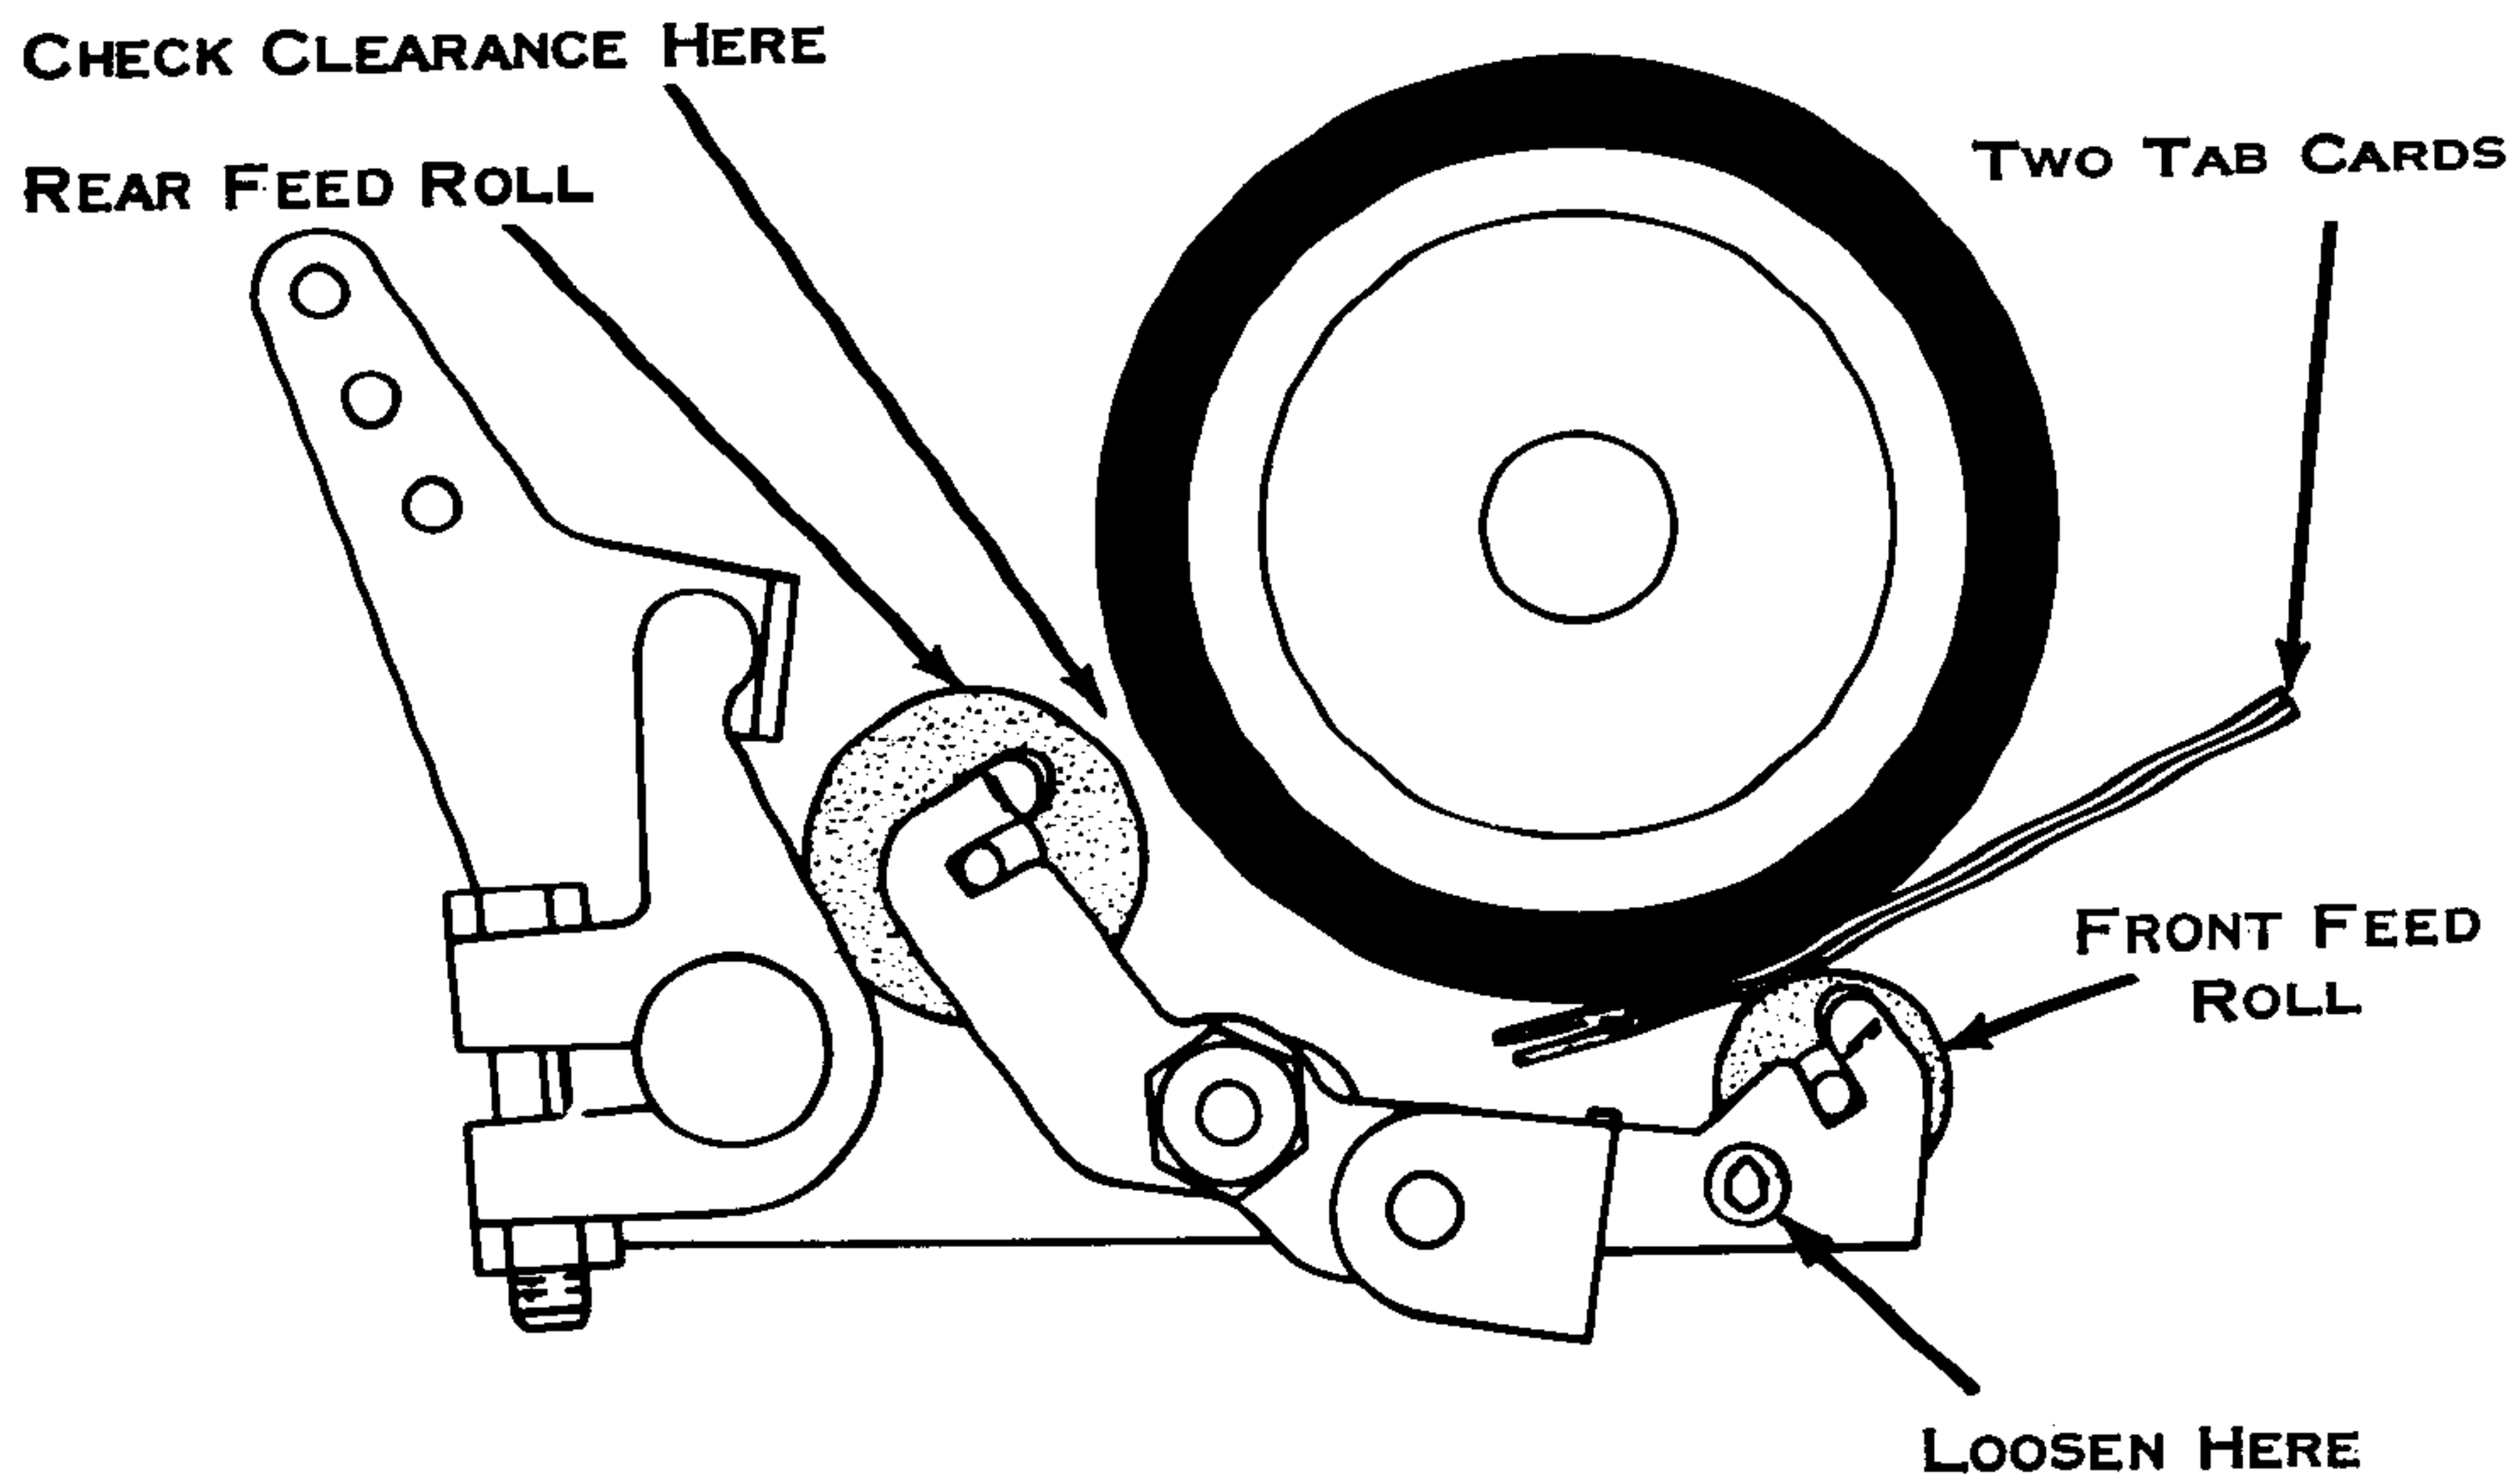

Figure 198. Feed Roll Adjusting Arm (New Style)
- a. Front Feed Roll Adjusting Arm, New-Style (Fig. 198) - Adjust so that when two data cards are placed between the front feed rolls and the platen, there is a clearance between the rear